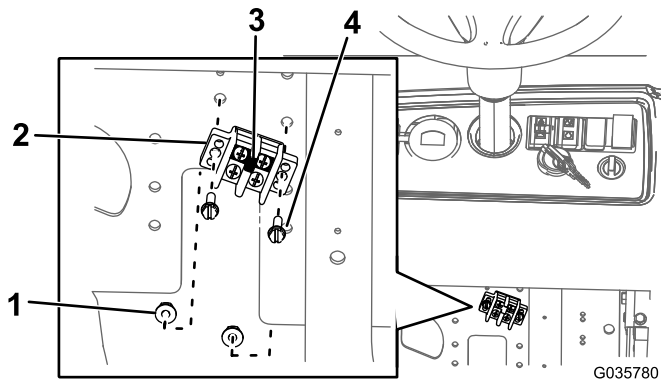

Figure 13
- A. Install the jumper strip to the ground block (Figure 13).
- B. Install the ground block to the mount plate using 2 bolts (#10 x 3/4 inch) and 2 nuts (#10) as shown in Figure 13.